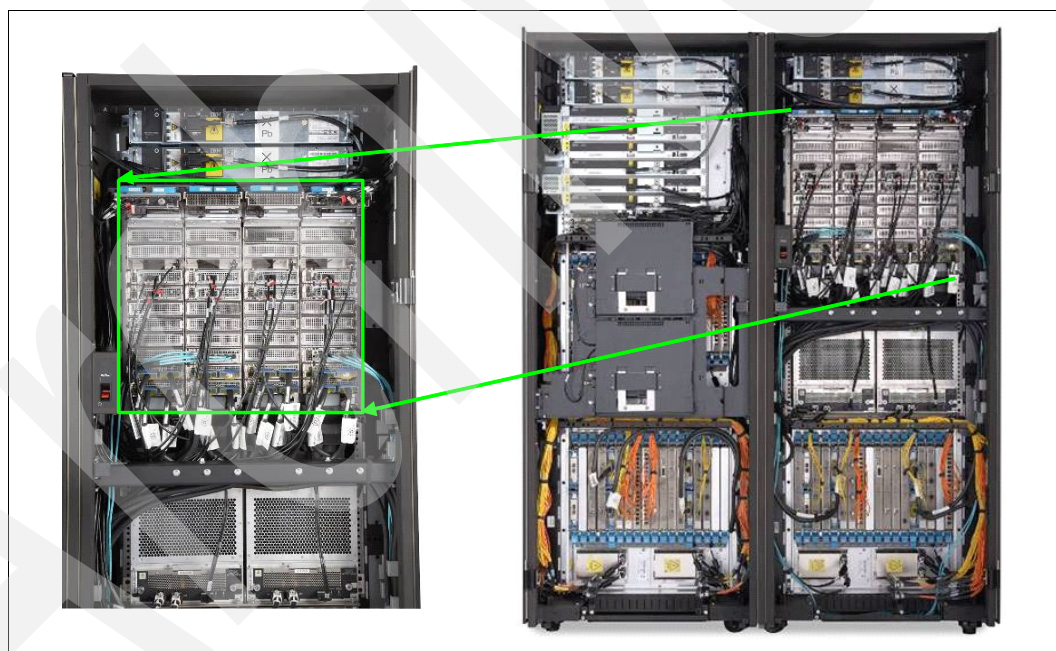

Figure 2-2 The CEC cage
- CEC cage (see Figure 2-2), which contains up to four books, each with two insulated refrigeration lines to an MRU